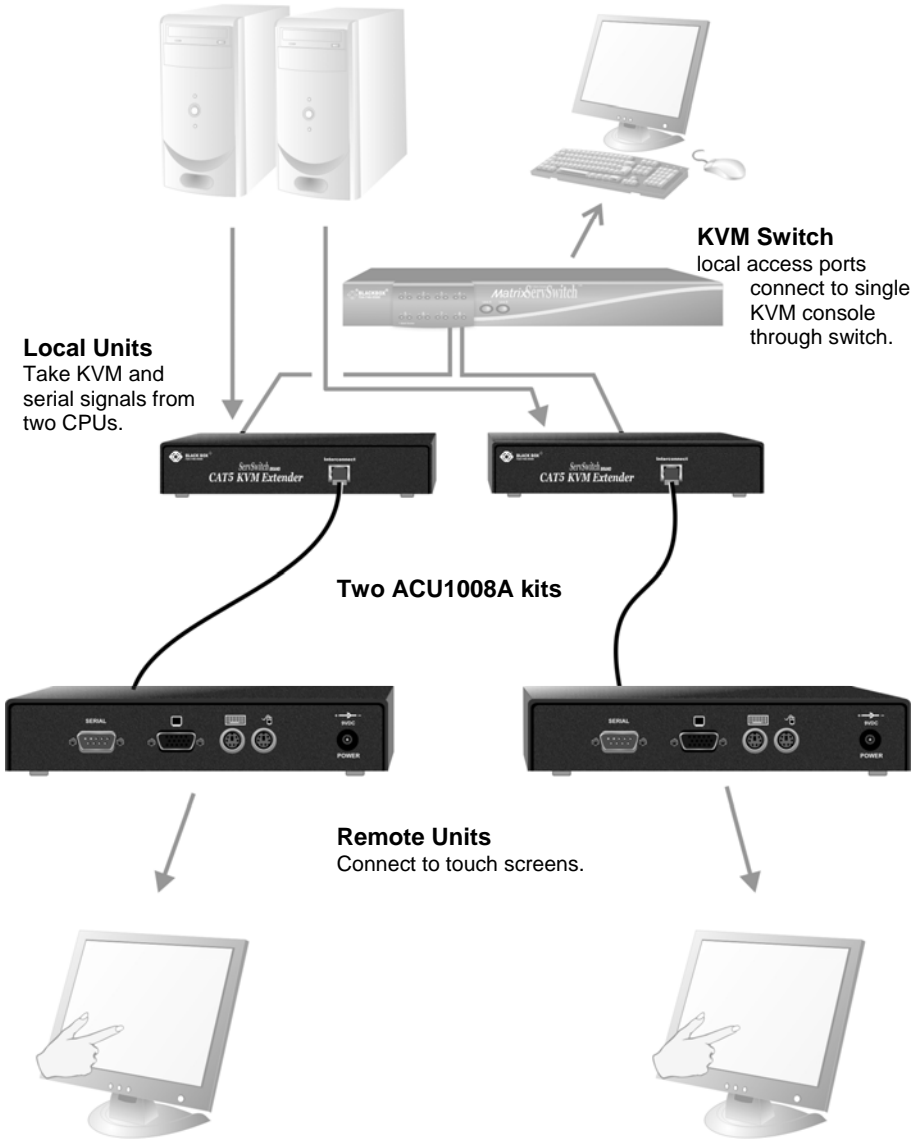

Figure 15 Touch screen network with local access to CPUs through KVM switch
- Two remote serial touch screens with local access through a KVM switch (Figure 15) using two ACU1008A kits.